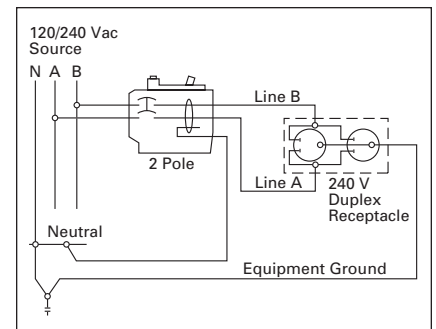

Figure 3-19. 2-Pole 240 Volt Load Application Sourced by 120/240 Vac
- ① Clamshell packaging available with CS modification code on the end of catalog number.
- ② Common trip refers to 2-pole 240 volt load application sourced by 120/240 Vac (see **Figure 3-19**).